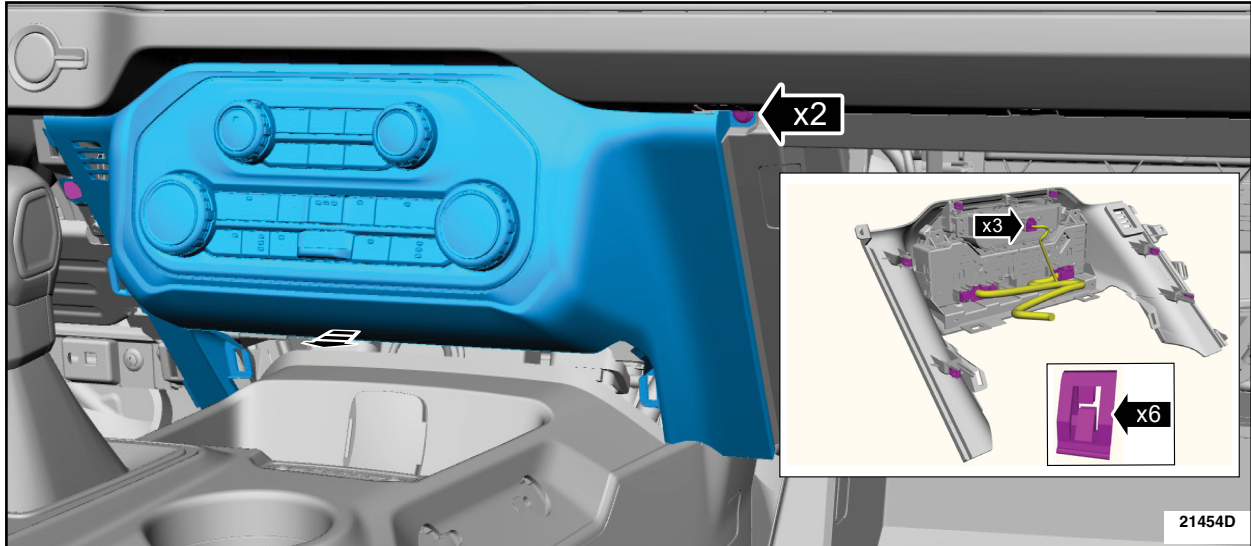

FIGURE 4
5. Remove the bolts, release the clips remove the lower center instrument panel trim panel, and disconnect the electrical connectors. See Figure 4.